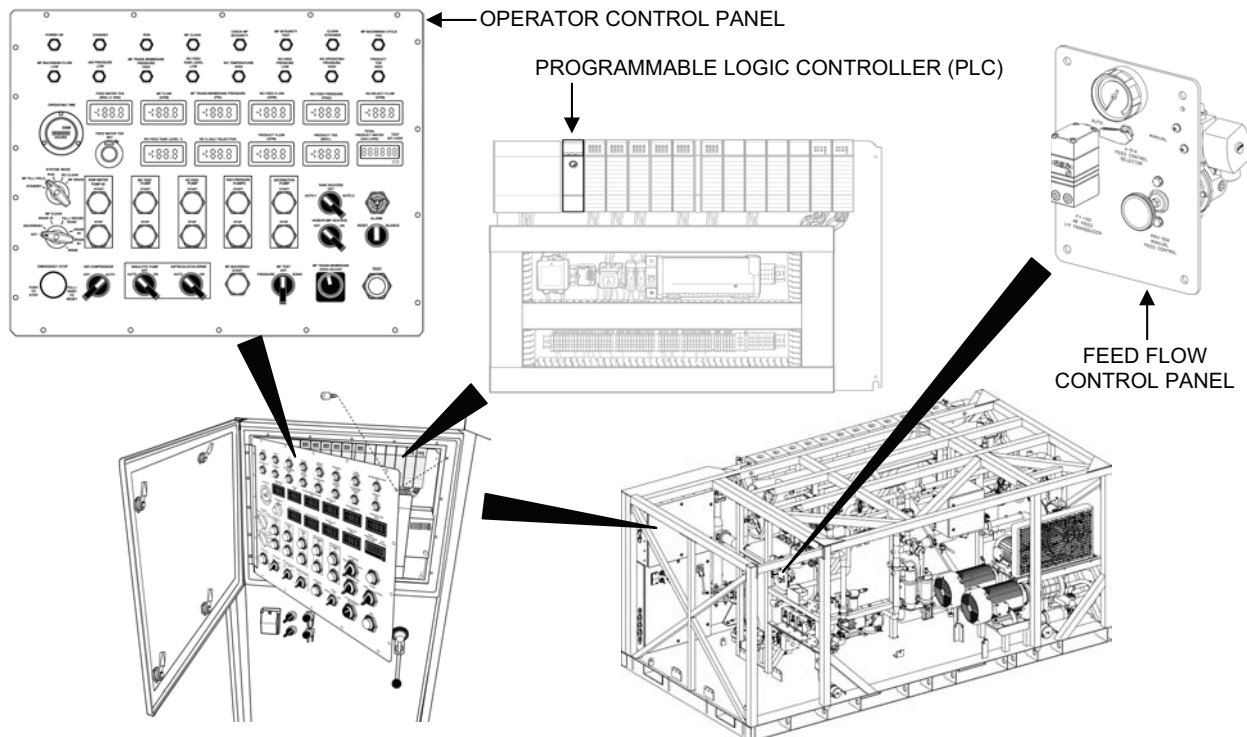

Figure 27. Operator Control Panel and Feed Flow Control Panel.
The Operating Controls include the Operator Control Panel (OCP), the Feed Flow (FF) Control Panel, the Programmable Logic Controller (PLC) (see Figure 27). It also includes several indicators and controls off of the OCP that require occasional adjustment and monitoring for manual operation. The OCP provides all of the push buttons, switches, alarm lights and displays needed for operator control and monitoring of the system. The Feed Flow Control Panel controls the operation of Flow Control Valve V-202, which controls the flow of filtrate from the MF system to the RO feed tank. The PLC provides automated control after operator startup and in response to operator switch selections. Indicators and controls throughout the TWPS MF and RO systems provide the operator with local indications of system conditions and manual controls for certain operating functions of the TWPS.